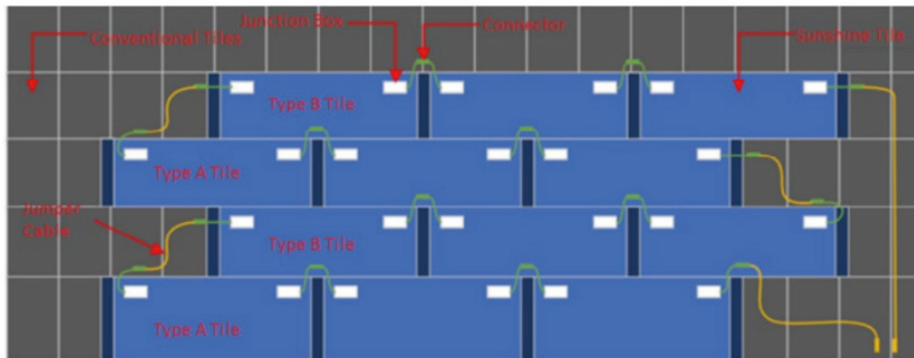

Figure 6-4: Instructions for Bridging Connection of Regular Sunshine MH products with Type B Sunshine MH products (Back View of Roof)
- ④ When regular Sunshine MH products are used with Type B Sunshine, the same version should be installed in one row, and the next row should change to the other version, alternating in the form of rows. Before moving to the next row, connect and secure one end of the extension cable, leaving it ready, and route the other end to the required bridging position for connection (as shown in Figure 6-4).